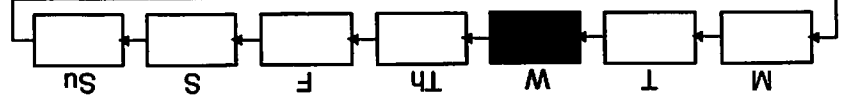

Fig. 6
- a. Press "+" or "-" button until day of week marker is positioned below correct day name on LCD. See Fig. 6, page 12.
- a. Press "+" or "-" button until day of week marker is positioned below desired day name on LCD. See Fig. 6, page 12.